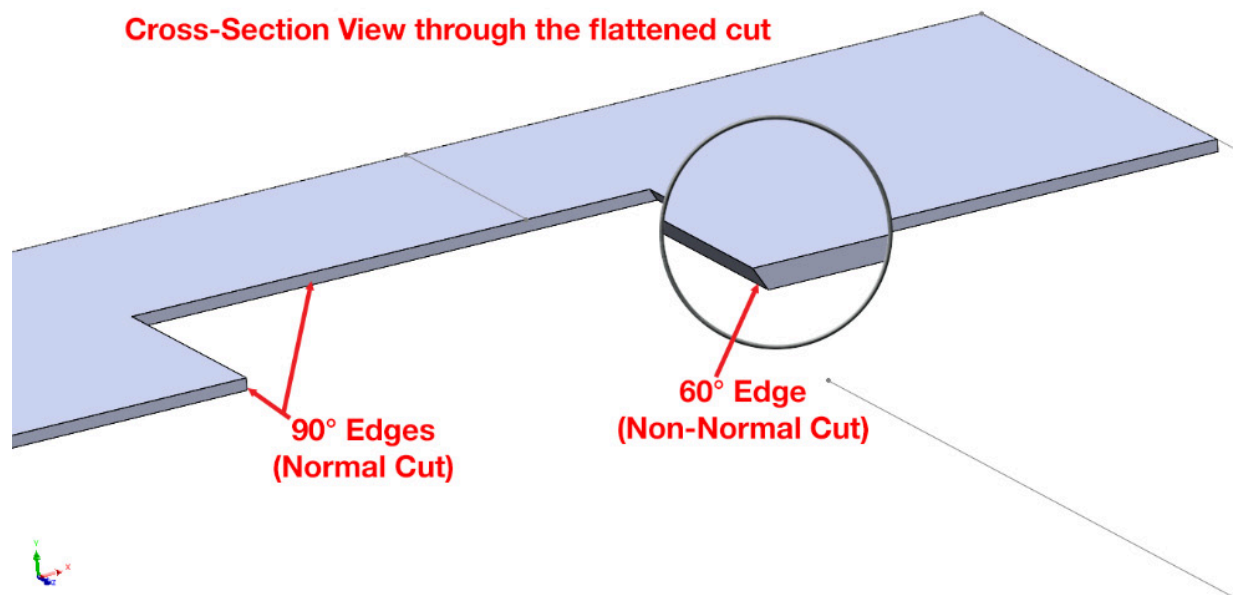

Figure 3.5: Cross-section view through the flattened cut showing the angled cut edge
3. Looking at the flattened sheet, we can see that the edge of the cut area that we just made now has an angled edge. *Figure 3.5* shows a cross-section view through this cut: